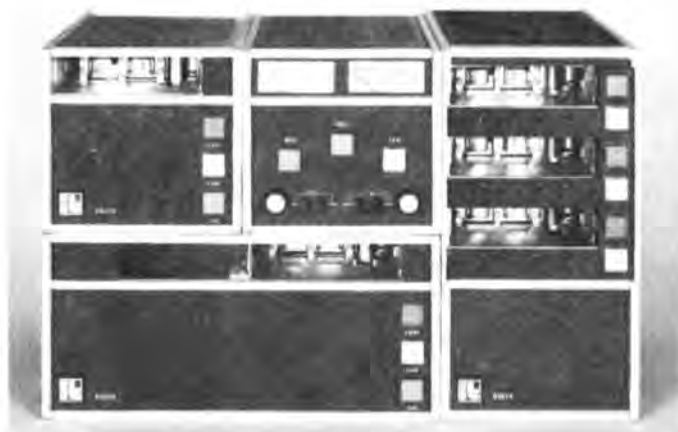

Fig. 2-1
TABLE TOP: Your DELTA cart machine was shipped from the factory as a table-top unit. The DELTA family was designed as an incremental Unit system. Up to three (3) single UNIT height machines may be mounted on top of each other. DELTA machines may be mounted to provide a compact and versatile system as illustrated by Figure 2-1. Units should not be fully enclosed unless additional ventilation is provided by external sources. (See VENTILATION) In addition, units should not be placed on top of equipment producing large amounts of heat.